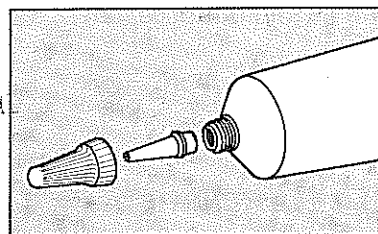

Fig. 4
The nozzle of the tube can be removed to enable the electrode cream to be squeezed out more rapidly (Fig. 4).
- Switch the instrument on using pushbutton (7) and turn switch (5) to PACING
- Connect the anterior-anterior-electrode lead for external defibrillation to socket (4) and lock
- Press the electrodes firmly onto the thorax (Fig. 4, section 2.3)
- Once therapy is ended, turn energy selector switch (5) to 0 and switch the instrument off using pushbutton (7) and clean the electrodes (see section 2.7)